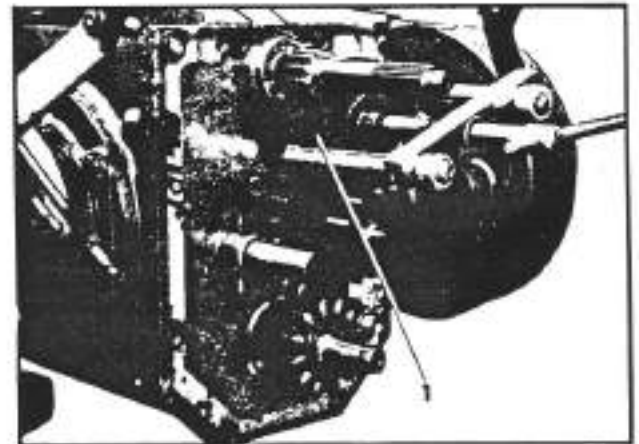
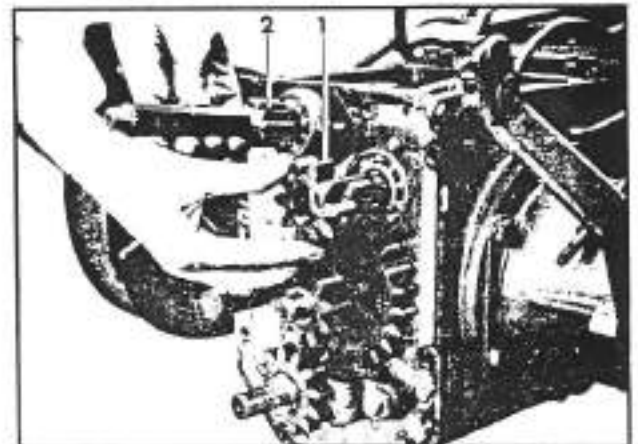

Fig. 3-18. Removal of the main drive shaft gear
Fig. 3-19. Removal of the idling gear and the driving pinion
- n. Extract, as indicated in figure 3-18, the gear (1; fig. 3-18) and the gear (1; fig. 3-19). Ease out the driving pinion (2; fig. 3-19) with its bearing.